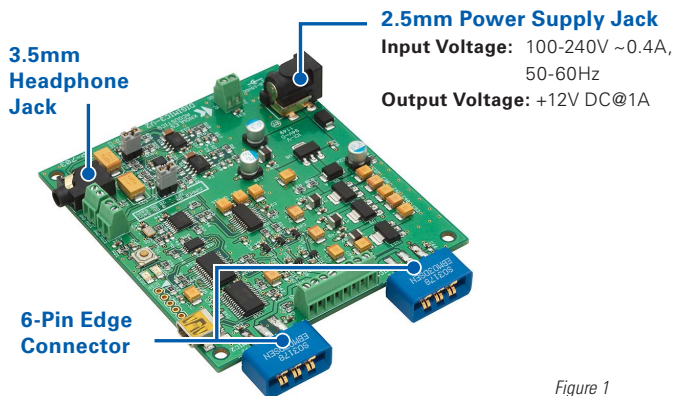

Figure 1
For mono use, either of the two 6-pin edge connectors can be used. (Figure 1).
3. Insert a power supply plug jack (not included) into to the DAC PCB (Figure 1).